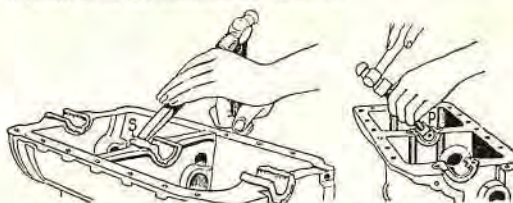

Fig. 18 (left). Cutting lugs or sprues (S) from sides of bearings. Fig. 19 (right). Peening the babbitted bearings.
Cut off lugs or sprues (S) from each side of bearing (Fig. 18). Level off top of bearings with file. Drill oil holes and remove the asbestos wicking which was put in them before pouring to prevent clogging the oil holes.